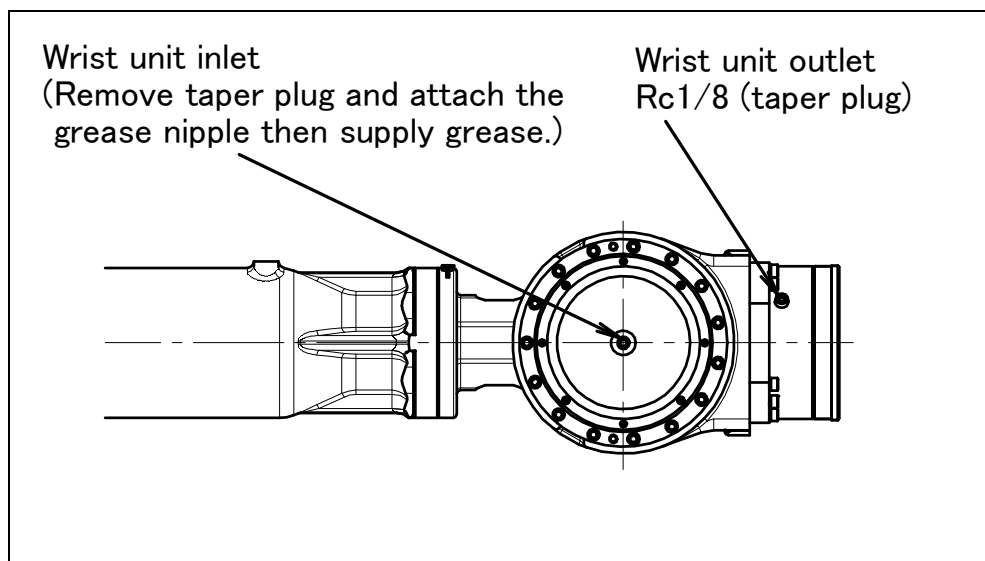

Fig. 7.2.5 (a) Replacing grease of the wrist (M-710iC/50, /70, /50H, /50S)
- 3 Remove the plug with a sealant from the wrist grease outlet and attach the grease nipple that comes with the robot (Fig. 7.2.5 (a)).